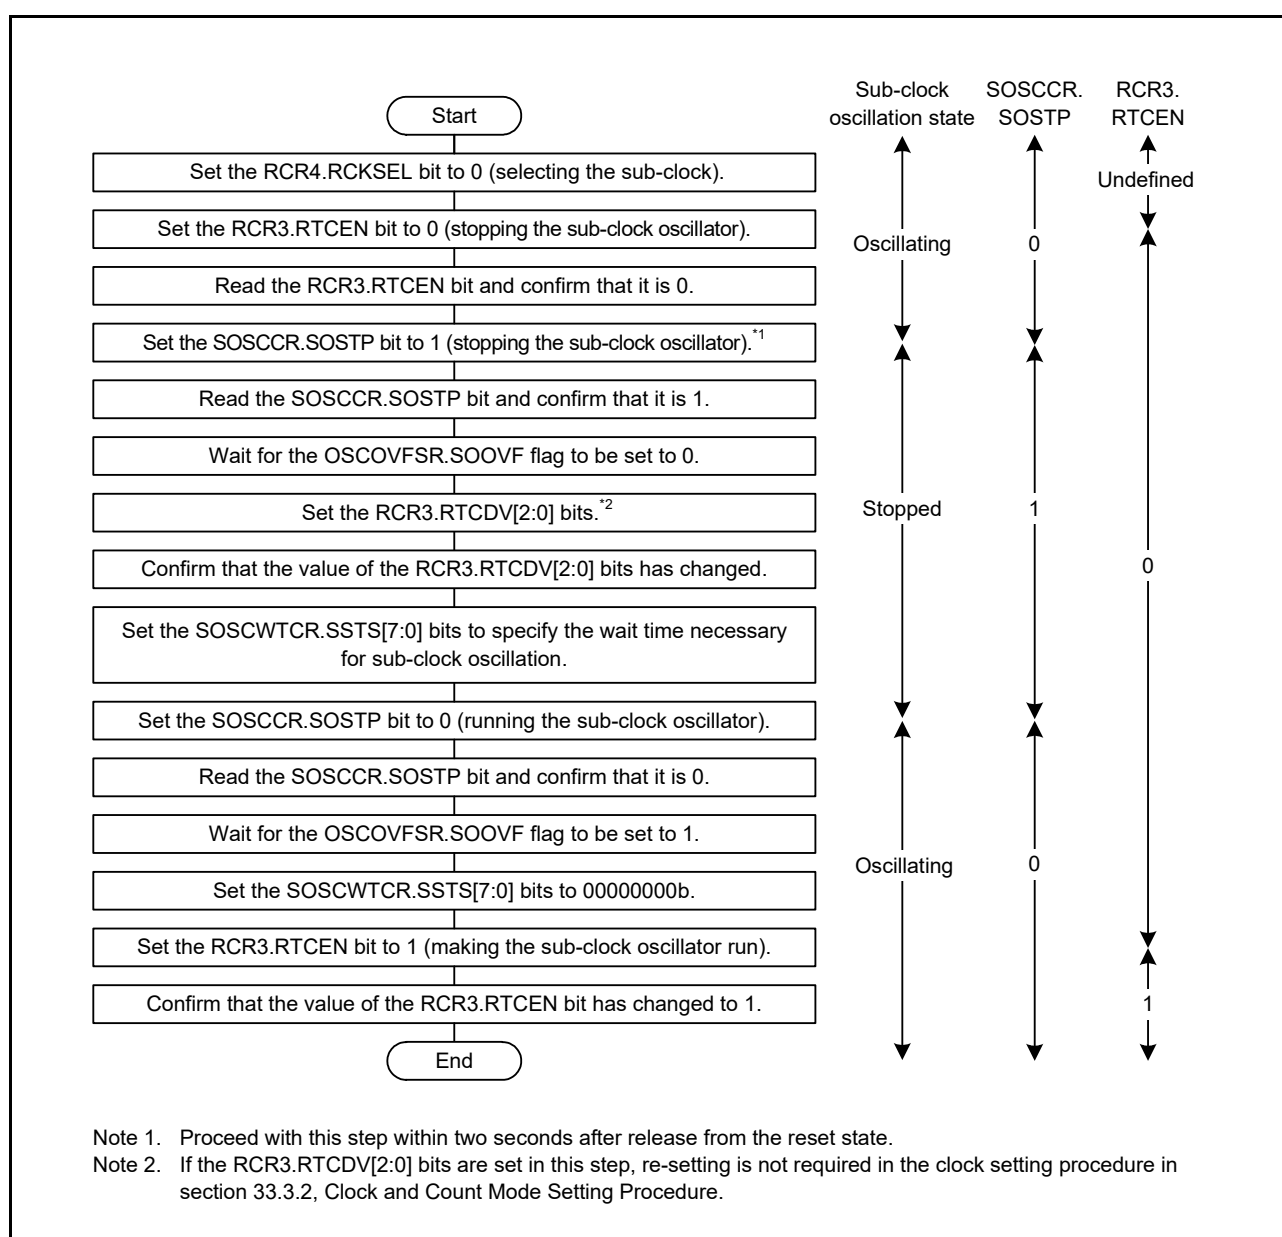

Figure 9.13 Example of Initialization Flowchart When Sub-Clock is Used as the Source to Drive Counting by the Realtime Clock
- Make initial settings according to the example flowchart shown in Figure 9.13 when the sub-clock is to be used as the system clock as well as the source to drive counting by the realtime clock or when the sub-clock is only to be used as the source to drive counting by the realtime clock. And then, follow the clock setting procedure described in section 33.3.2, Clock and Count Mode Setting Procedure.